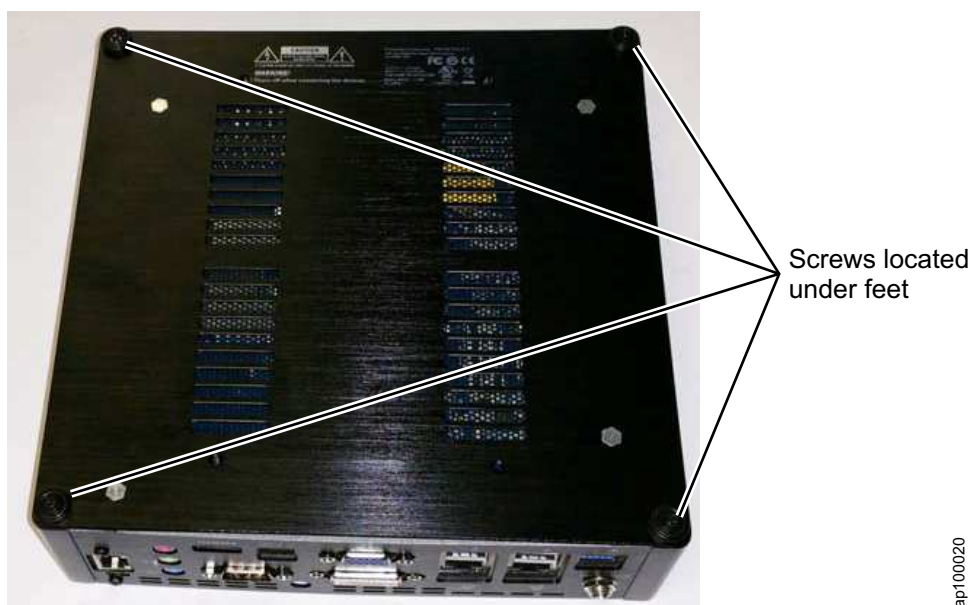

Figure 20. Underside of processor unit
2. Remove the bottom cover of the processor unit by removing the four screws that are located under the feet of the unit. (Figure 20)